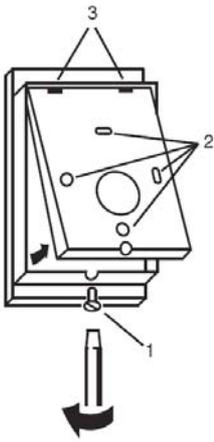

Fig.2
- Remove single screw from underneath unit **Fig.2 (1)**
- Separate base and install the base with the appropriate screws and fixings for the wall type (not supplied) **Fig.2 (2)**
- Position the unit on the base, first hooking the two recesses in the inside top over the hooks on the base then gently swing the unit down so that the pins engage in the connector **Fig.2 (3)**
- Finally, secure with single fixing screw underneath **Fig.2 (1)**